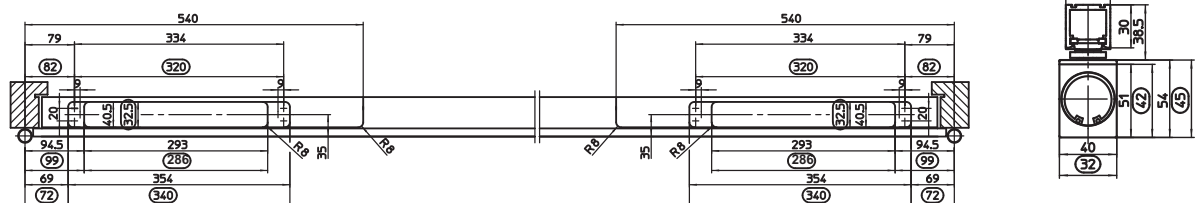

Fig.: 6.1.1
- ▶ Prepare the door as shown in fig. 6.1.1.